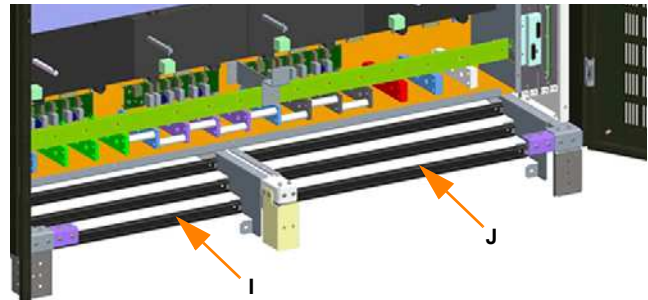

Figure 3.15
11. Fit two cable securing bars (I), (J) between the next set of lugs on profiles (A), (B), (C), (D) as shown in Figure 3.15. Secure each bar using two M5 nuts and bolts tightened to a torque of 6.0 Nm.
Note: For reasons of clarity the cables connected to the rear and middle holes are not shown in Figure 3.15.